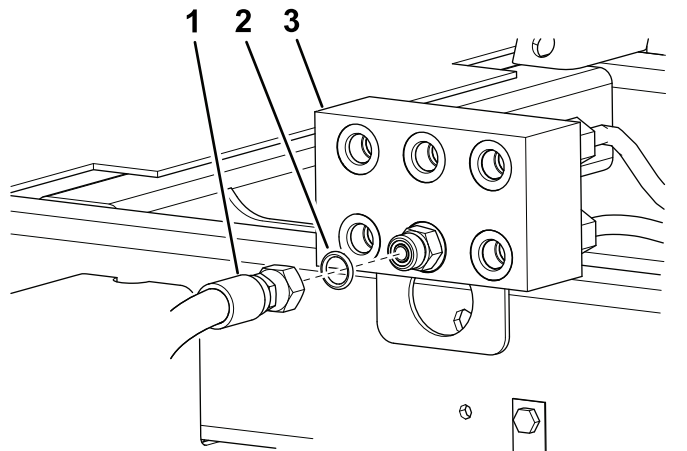

Figure 3
6. Place a drain pan under the junction manifold (Figure 3).
7. Disconnect the hydraulic hose from the lower center fitting on the junction manifold (Figure 3).